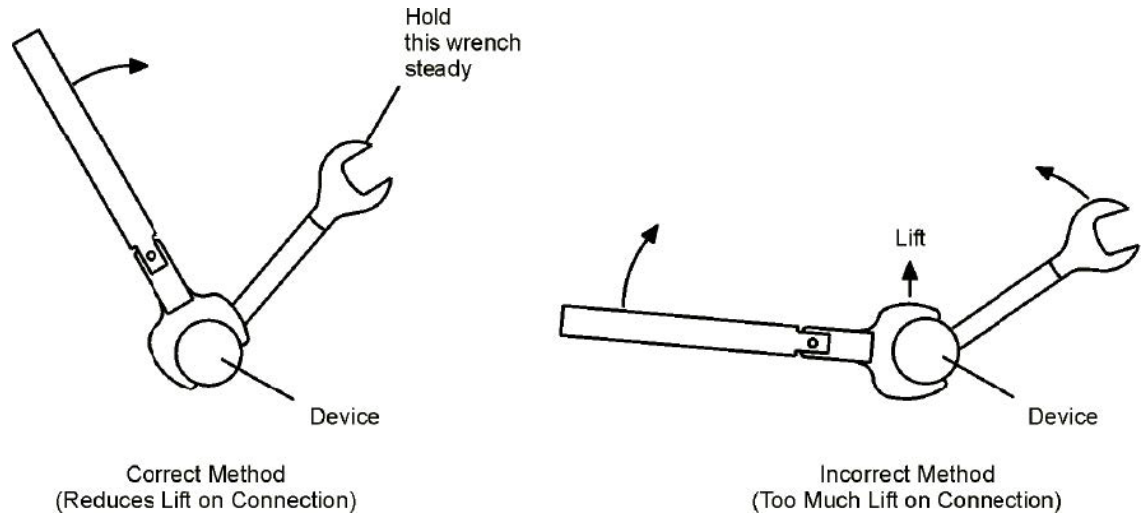

Figure 3-4 Wrench positions
- 1 Position both wrenches within 90 degrees of each other before applying force. See Figure 3-4. Wrenches opposing each other (greater than 90 degrees apart) will cause a lifting action which can misalign and stress the connections of the devices involved. This is especially true when several devices are connected together.